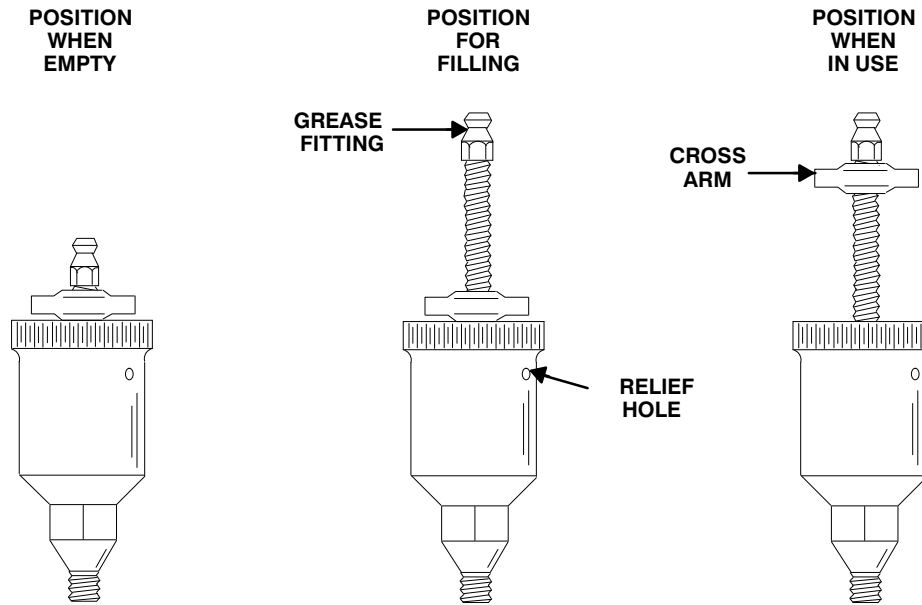

Figure 6. Automatic Lubricating Grease Cup
Before removing the impeller, turn the cross arm on the automatic grease cup (13) clockwise until it rest against the cover (see Figure 6). This will prevent the grease from escaping when the impeller is removed.
this will release the spring to apply grease to the seal (see Figure 6).